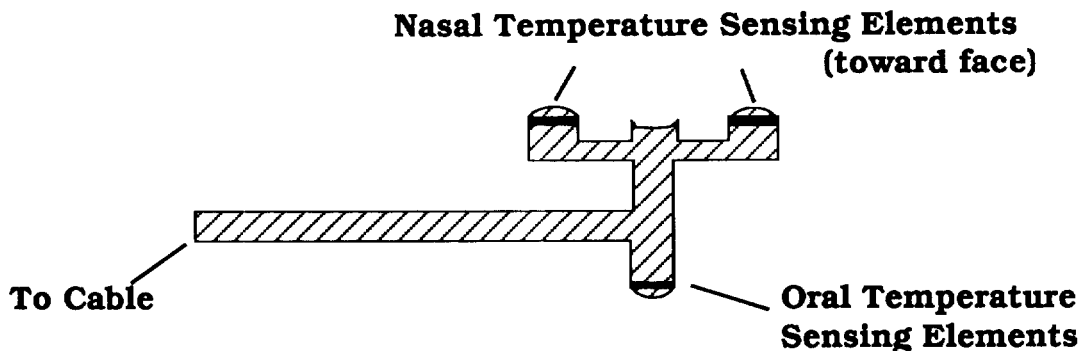

Figure 1
2. Attach Model 3171 EdenTrace Airflow Interface Cable into the appropriate size Model 970 series airflow sensor. The size you choose is based upon the patient. It is important that the temperature sensing elements are beneath the nostrils. The oral temperature sensing element must reside in the oral airway, not on the lips. See figure 1.